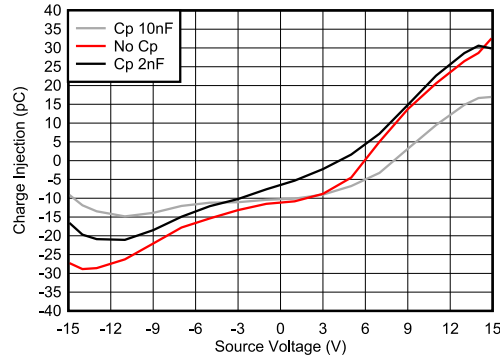

图 7-2. Charge Injection Compensation
The TMUX7219 contains specialized architecture to reduce charge injection on the source (Sx). To further reduce charge injection in a sensitive application, a compensation capacitor (Cp) can be added on the drain (D). This will ensure that excess charge from the switch transition will be pushed into the compensation capacitor on the drain (D) instead of the source (Sx). As a general rule, Cp should be 20× larger than the equivalent load capacitance on the source (Sx). Figure 7-2 shows charge injection variation with source voltage with different compensation capacitors on the drain side.